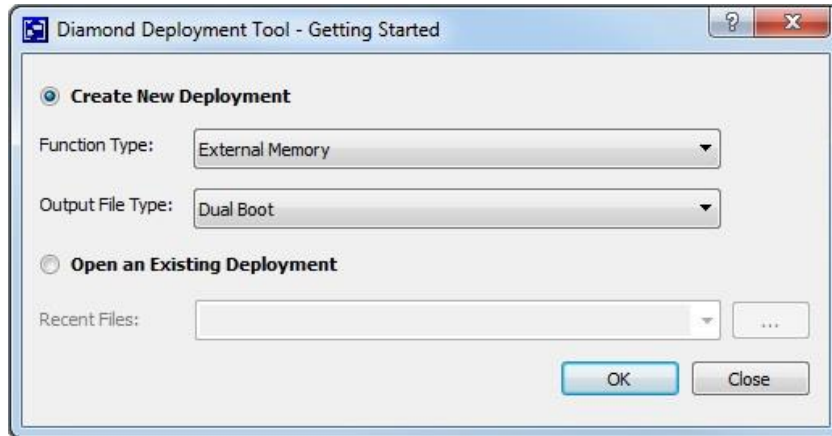

Figure 4.5. Generate Dual Boot File for External Memory
2. In the **Getting Started** dialog of the Deployment Tool (Figure 4.5), choose the **Create New Deployment** option, **External Memory** as the **Function Type**, **Dual Boot** as the **Output File Type**, to generate Dual Boot file for external SPI Flash.